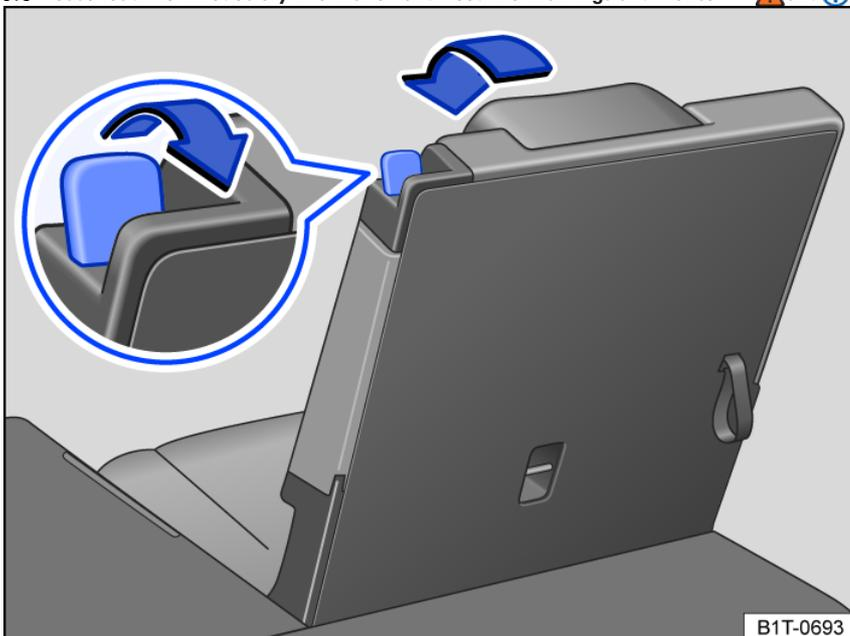

Fig. 84 Third row seat: folding the rear seat into the cargo floor position.
- Pull the release lever *fig. 84* all the way back to release the rear seat backrest.
- The red marking on the release lever *fig. 84* must not be visible.
- A red marking on the release lever *fig. 84* indicates that the rear seat backrest is not latched. The red marking must not be visible when the backrest is latched.